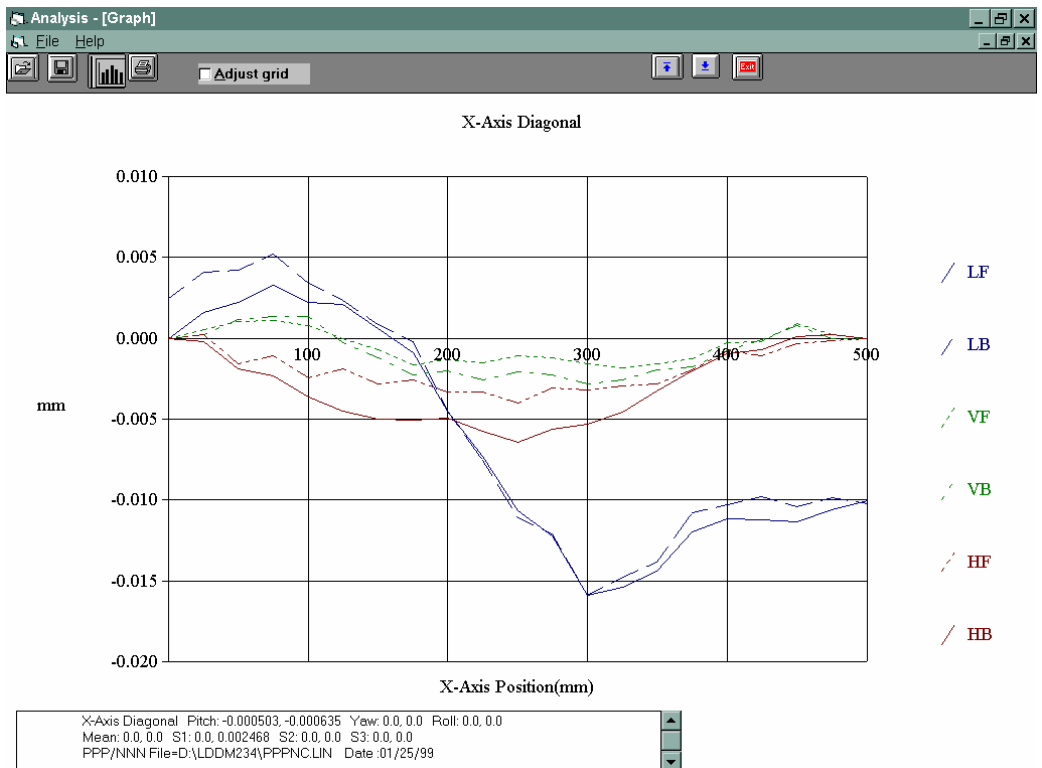

FIG. 9-11 A PLOT OF LINEAR POSITION ERRORS, VERTICAL STRAIGHTNESS AND HORIZONTAL STRAIGHTNESS OF X-AXIS
- Click on **Graph**, a screen will popup for you to select the plots. A plot of linear position errors, vertical straightness and horizontal straightness is shown in FIG. 9-11. Click on  to get back to the analysis screen. To save the data file, click on **file** and **save**. The data will be saved under filename.SDX.